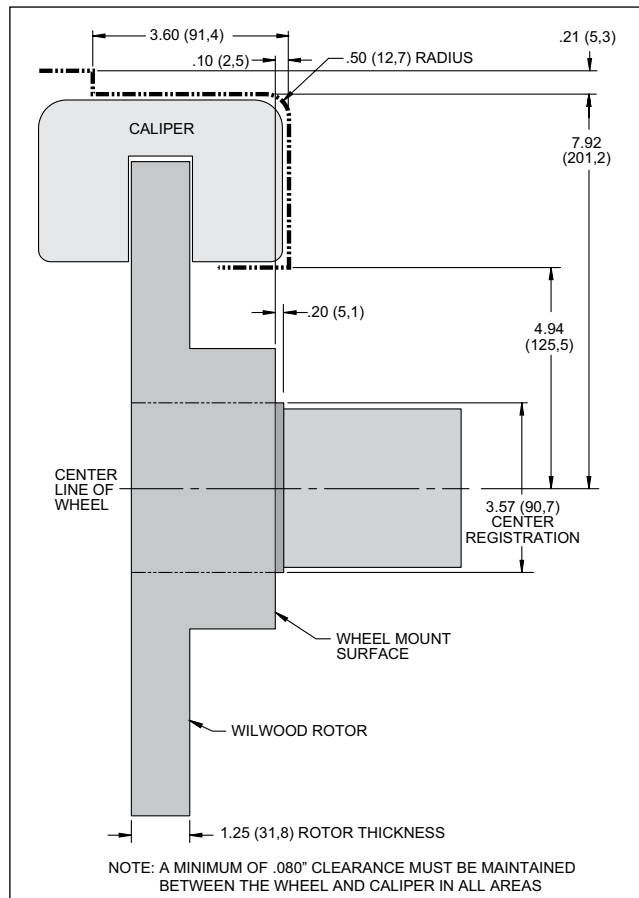

Figure 2. Wheel Clearance Diagram
- Verify your wheel clearance using Figure 2.
- **CAUTION:** Wheel fitment to OEM hub interference must be checked. There is a 3.57" diameter step on the hub face that was used to register the old brake drum (Figure 2). Be sure your wheel fits flush against the hub face. If the step interferes, you will need to use a wheel spacer (customer supplied) to clear the step.
•Temporarily install the wheel and torque the lug nuts to the manufacturer's specification. Ensure that the wheel rotates freely without any interference. **CAUTION:** Wheel fitment to OEM hub interference must be checked. There is a 3.57" diameter step on the hub face that was used to register the old brake drum (Figure 2). Be sure your wheel fits flush against the hub face. If the step interferes, you will need to use a wheel spacer (customer supplied) to clear the step.
•**NOTE:** OEM rubber brake hoses generally cannot be adapted to Wilwood calipers. The caliper inlet fitting is a 1/8-27 NPT (use PTFE tape on pipe threads for proper sealing to caliper). Install Wilwood's stainless steel braided flexline hose kit (22), P/N 220-13319 included with this kit. **Carefully route hoses to prevent contact with moving suspension, brake or wheel components.** **NOTE:** Wilwood hose kits are designed for use in many different vehicle applications and it is the installer's responsibility to properly route and ensure adequate clearance and retention for brake hose components.